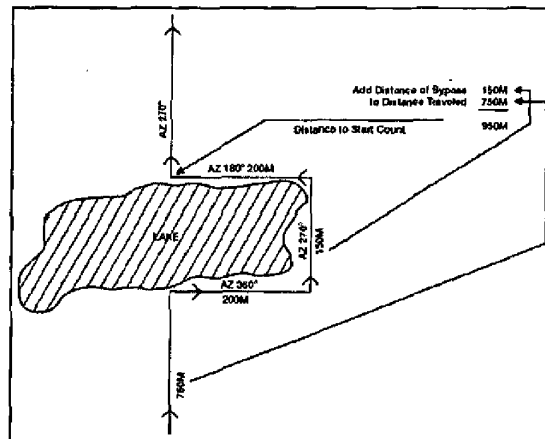

Figure 071-329-1006-6. Bypassing an obstacle
- e. If you should encounter an obstacle, you may have to detour around it (figure 071-329-1006-6). To do this, complete a series of 90-degree turns until the obstacle is bypassed and you are back on the original azimuth.